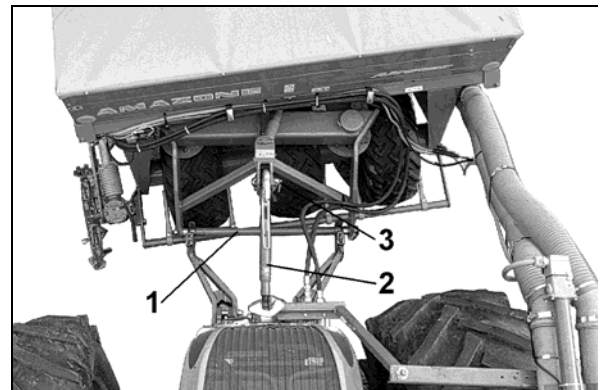

Fig. 34
The height of the Cat II lower link rod (Fig. 34/1) can be adjusted.
- o Cat II lower link rod (Fig. 34/1)
- o Cat. II top link pin (Fig. 34/3).
6. Couple the tractor top link (Fig. 34/2) with the top pivot point of the implement. The top link hook locks automatically.